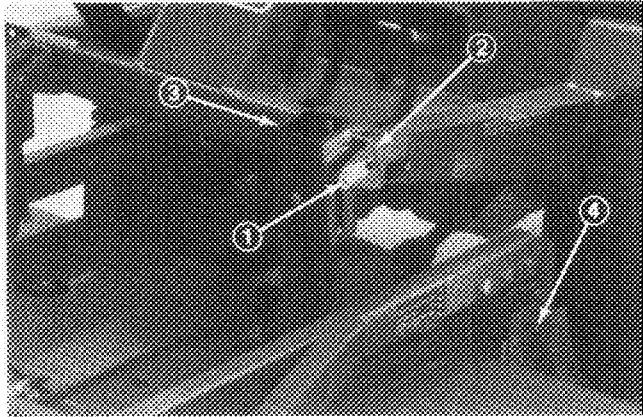

Figure 22
2. Disconnect counterbalance from traction unit, remove lock pins from brackets, separate spring tension assemblies from brackets and lay them down on the deck. Loosely secure lock pins to brackets to prevent losing them. (Fig. 22).
3. Lower cutting unit, remove pins (4) from height-of-cut brackets (Fig. 22).